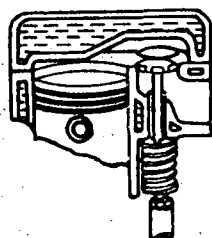

Fig. 3
- The whole mechanism is situated in the engine block (fig. 3).